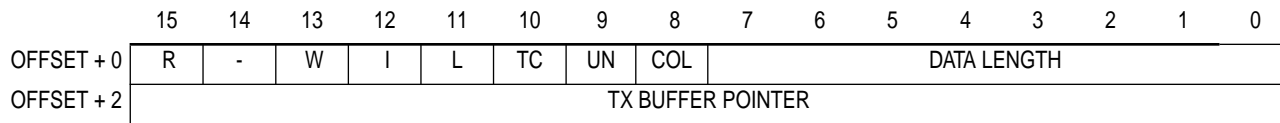

Figure 4-14. Transparent Transmit Buffer Descriptor
4.5.11.8 TRANSPARENT TRANSMIT BUFFER DESCRIPTOR (TXBD). Data is presented to the CP for transmission on an SCC channel by arranging it in buffers referenced by the channel's TxBD table. The CP confirms transmission (or indicates error conditions) using the BD to inform the processor that the buffers have been serviced. The TxBD is shown in Figure 4-14.